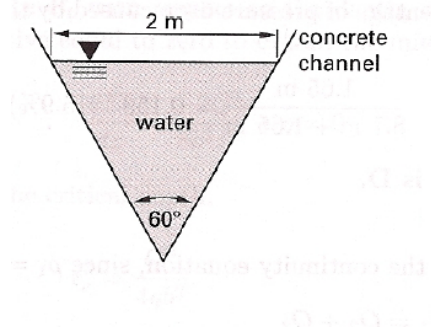

Figure 2: Triangular channel.
14. A smooth concrete channel is depicted in Figure 2. The channel's dimensionless slope in the direction of flow is 0.005. If the flow width at the surface is 2-meter, what is the flow rate in the channel using the Hazen-Williams friction formula?